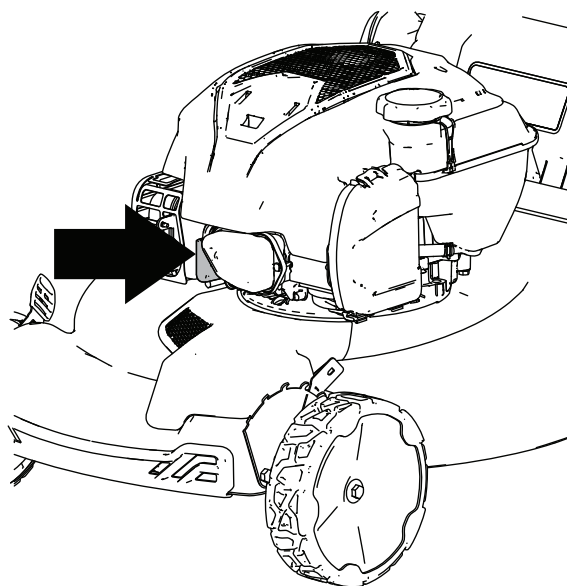

Figure 18
2. Disconnect the spark-plug wire from the spark plug (Figure 18).